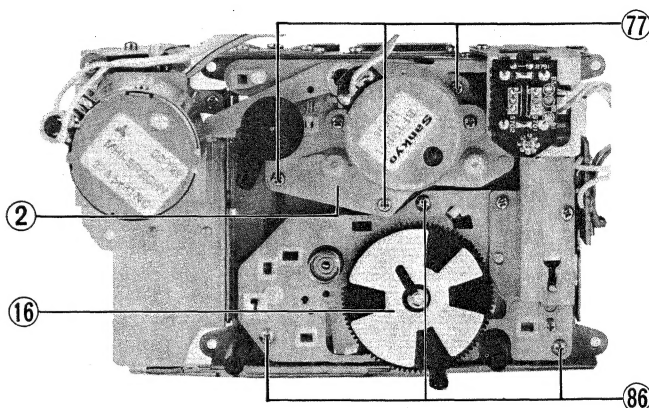

Fig. 14
K. Reel disk ass'y ② (Fig. 14)
2. Remove 3 screws ⑦⑦ .
L. Drive gear ass'y ①⑥ (Fig. 14)
2. Remove 3 screws ⑧⑥ .